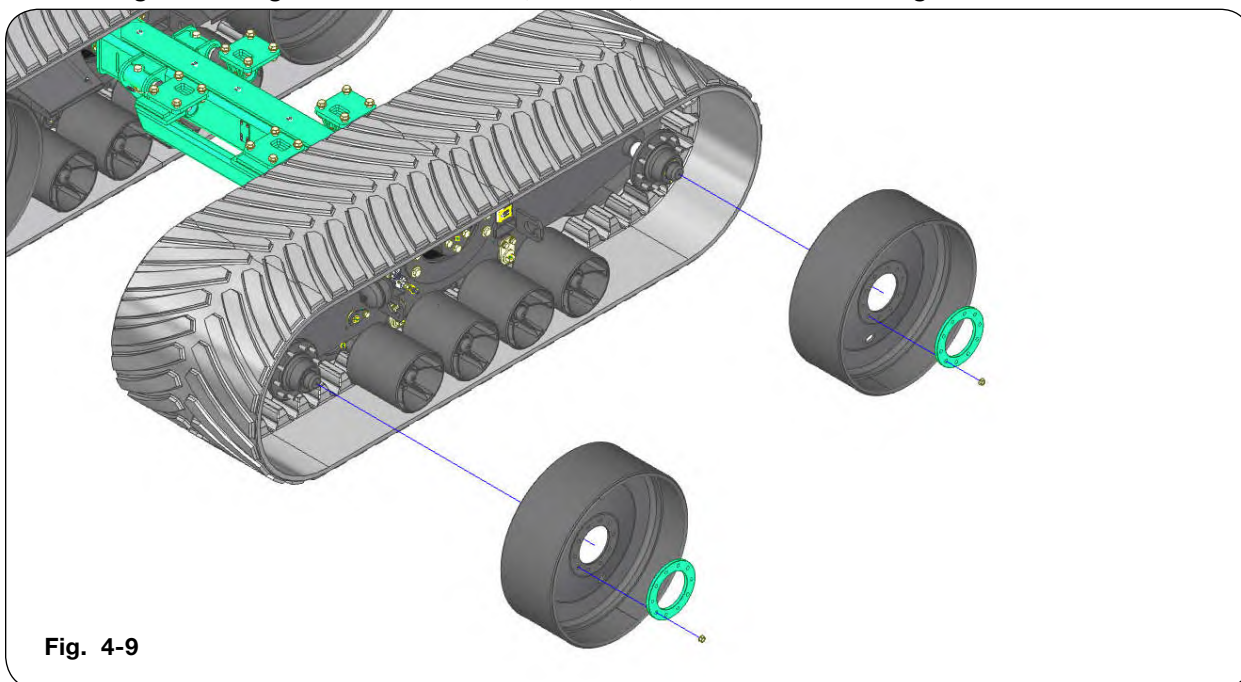

Fig. 4-9
8. Using a safe lifting device rated at 600 lbs., remove front and rear outside idler wheels. Retain parts and hardware for reassembly. (Fig. 4-9)